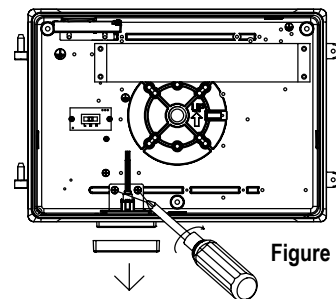

Figure 5
4. Replace the mounting bracket into it's original position. The sensor should be in the plastic cover on the bottom of the fixture. Secure the bracket with the two (2) screws removed in step 1. Remove the bronze protective plastic cover. (see Fig. 5)